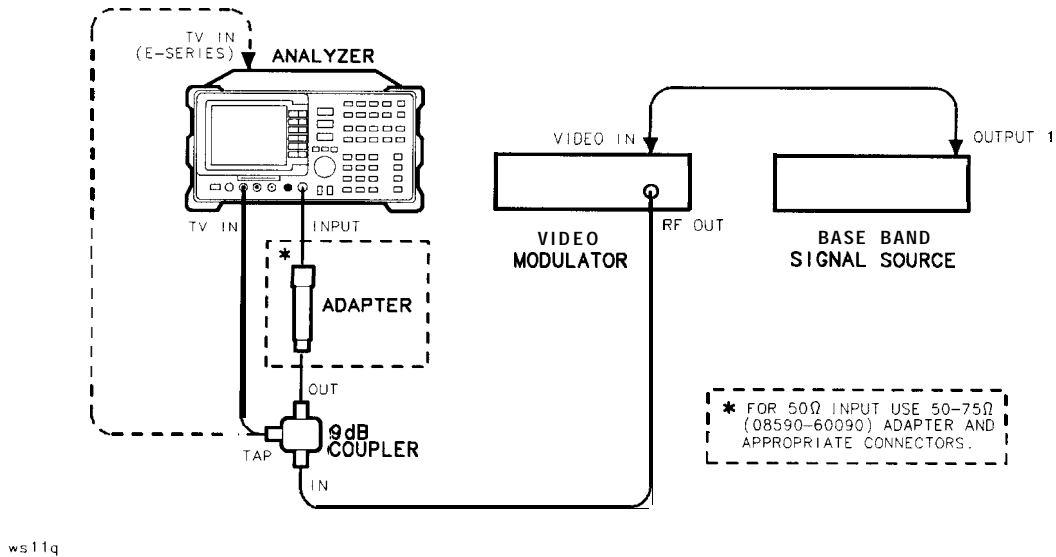

Figure 2-106. Differential Gain/Phase Setup
3. Connect equipment as shown in Figure 2-106.
1. Connect equipment as shown in Figure 2-106.